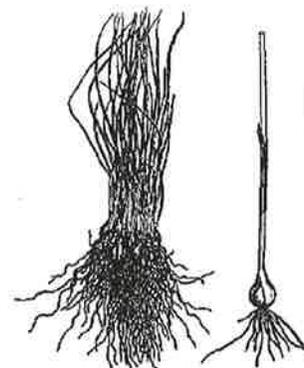

Figure 4-17. Wild garlic reproduces by forming new bulbs underground and by producing bulblets at the tops of slender, flexible stems.
**Wild garlic** (Figure 4-17) is a small, dark green, grass-like weed that grows during the winter and spring and then dies down. The leaves are hollow, slender, and almost round. Wild garlic sometimes blooms and produces seeds. It is placed in this section because management practices for wild garlic are the same as those for biennial and perennial broadleaf weeds.